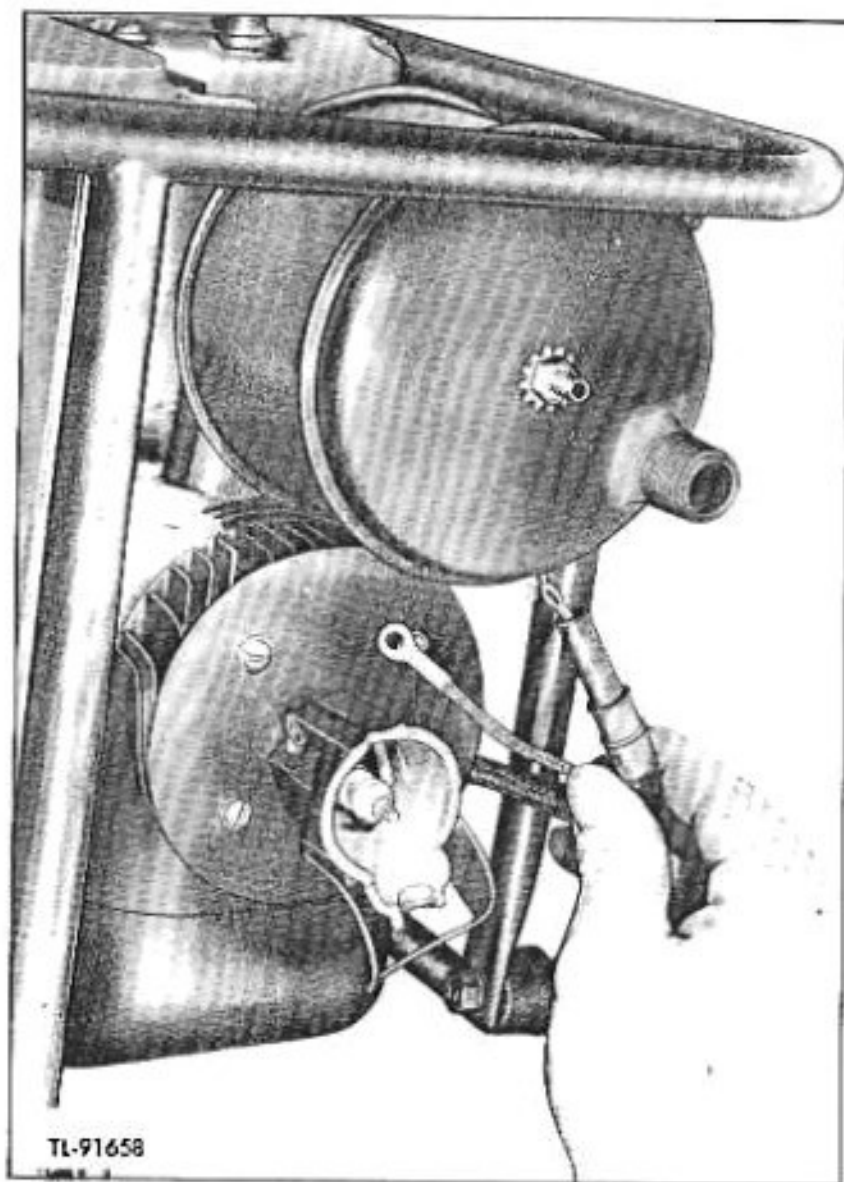

Fig. 9—Test for Spark Output
(3) If the spark plug is removed and the points are found to be wet, it is an indication that the engine is being operated with too rich a fuel mixture, or the ratio of gasoline to oil is not correct.
b. Magneto. (1) If there is an indication that the magneto is causing trouble, test the magneto before attempting to repair it. If the engine refuses to start after it is determined that the spark plug is all right, check the magneto by removing the high tension wire (412) from the spark plug and holding the end of the wire about 3/16 inch away from a point on the engine (fig. 9). When the engine is cranked in the usual manner, a properly performing magneto will have a spark output strong enough to jump the prescribed gap.
(2) If the spark produced will not meet the above test, it is very likely that the breaker points require adjustment and should be gapped to a .020 inch opening. The only adjustable part on the magneto is the breaker plate (476), which provides adjustment for the breaker points.
(3) To adjust the breaker points, proceed as follows: